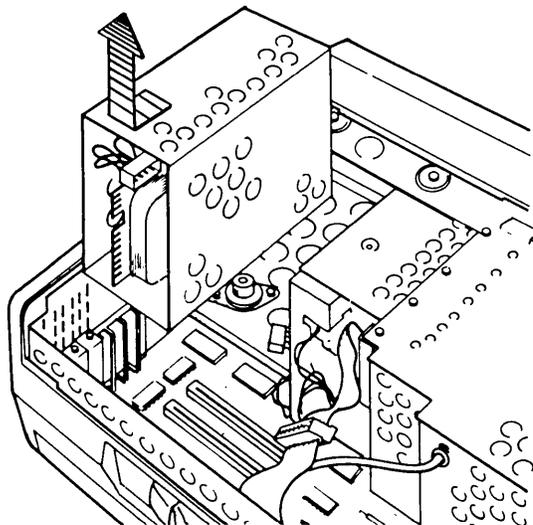

Figure 11-17. Removing the Diskette Drive.
17. Carefully slide the diskette drive towards the rear of the computer and away from the system chassis (see Figure 11-17).